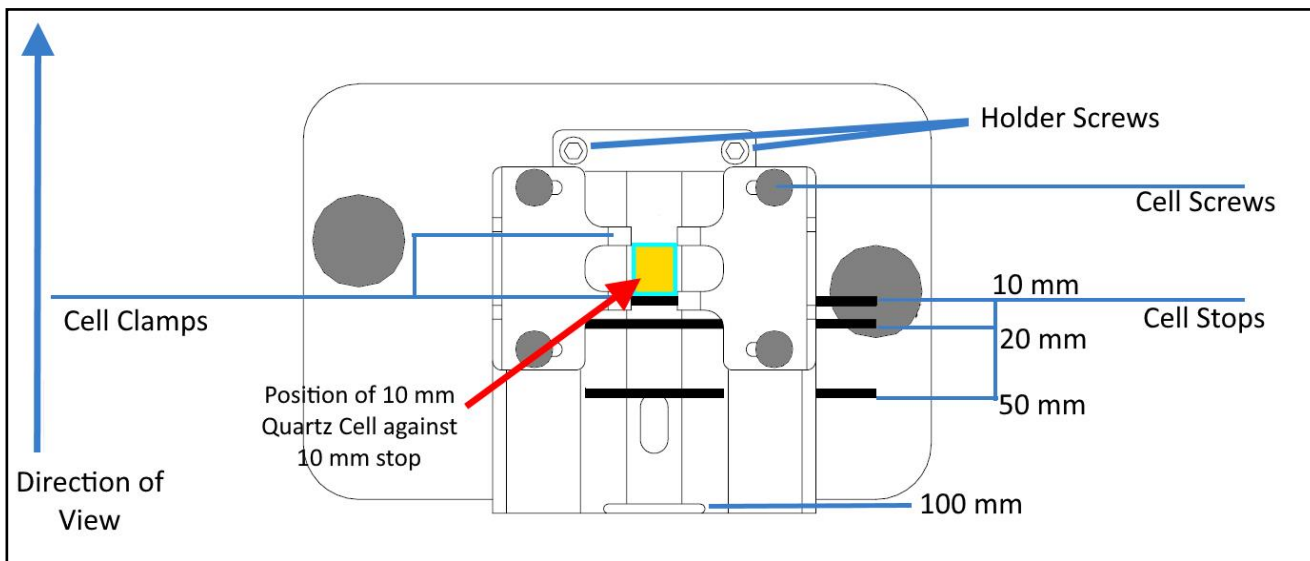

Figure 1
- If your sample cell is not one of the standard lengths, position the cell stops as for a long path sample cell, i.e., position the 10mm cell against the 10mm stop as shown in Figure 1.